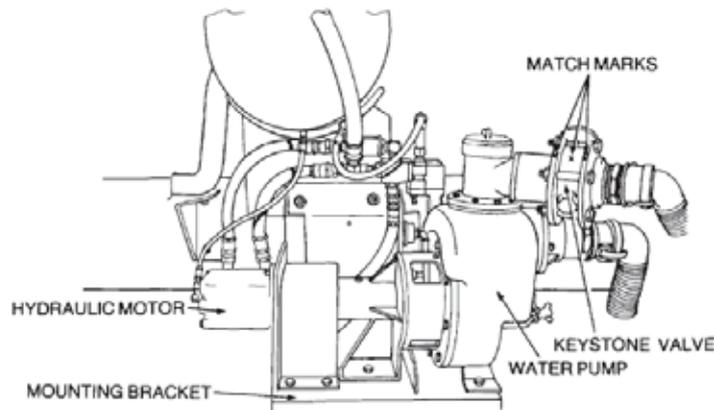

Figure 27 Keystone Valve Match Marks
- a. Match mark the flanges to the Keystone valve and the outlet pipe to the delivery branch at the water pump outlet (Figure 27).